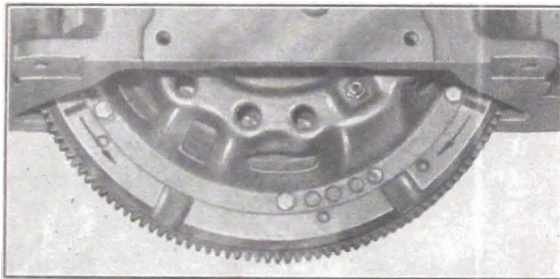

Fig. 6-26A. Marking Flywheel
3. Make a chalk mark on flywheel at edge of flywheel housing on each side. (See Fig. 6-26A.)